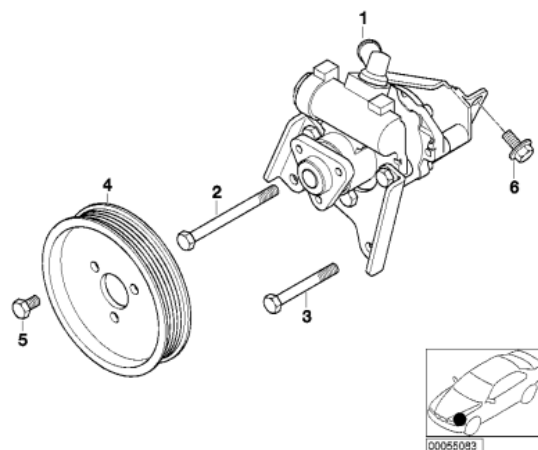

Figure 6
13. Dismantle the power steering pump pulley (Figure 6, #4) (not Z4).